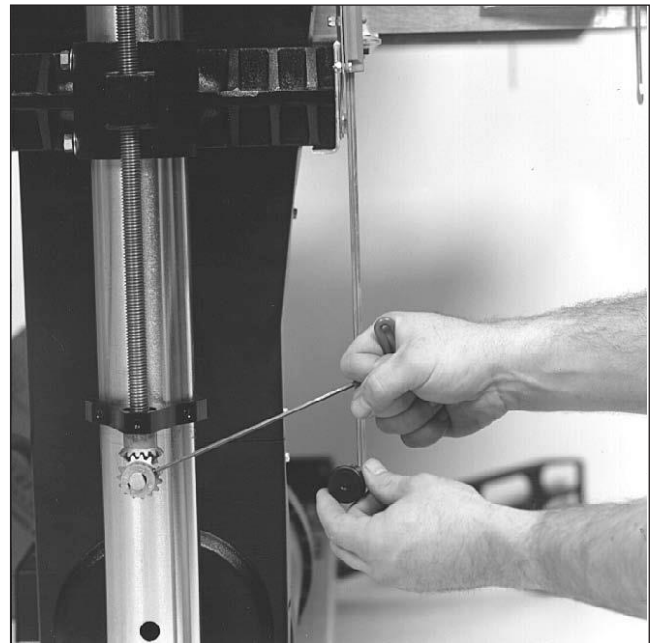
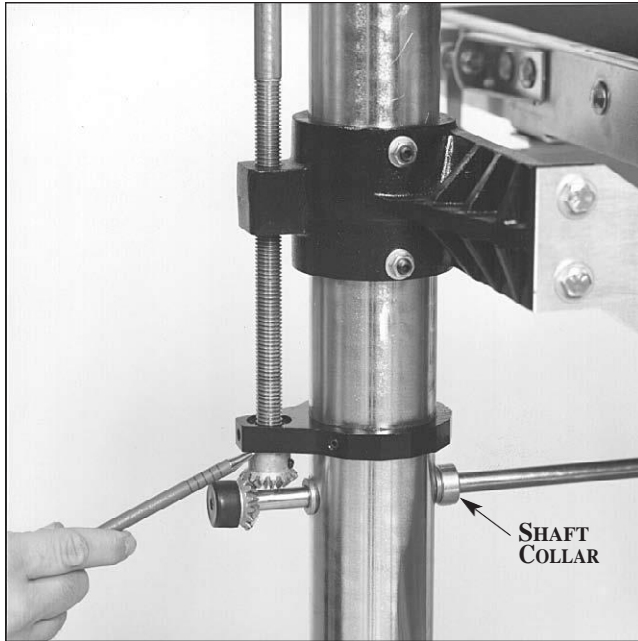

Fig. 18. Adjusting miter gears for proper mesh.
Fig. 19. Miter gear below adjusting screw support.
2. Lubricate thoroughly by applying penetrating lubricant to the table support castings where they contact the column tubes, and to all contact points of adjusting screws and cross bar (Fig. 18). Also apply oil or grease to the miter gears.
5. If the height adjustment mechanism feels rough, check the miter gear (Fig. 18) alignment. The miter gears can be adjusted on their shafts by loosening the set screws on the gears. Check and adjust so that the gear mesh is not too tight or too loose, and that the gear teeth align with the opposing gear. Note that the shaft collars located on the cross bar (Fig. 19) should be adjusted to control the lateral movement of the cross bar to maintain accurate miter gear alignment and mesh.
The mesh of the miter gears should be smooth and even. If not, adjust the gears for good mesh (Fig. 18). Measure the space between the miter gear and the adjusting screw support that holds the height adjusting screw in place (Fig. 19). The